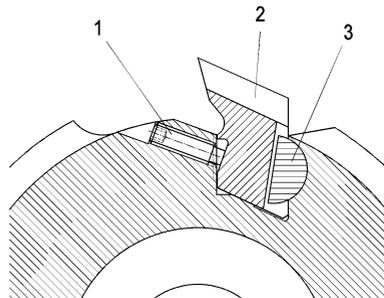

Fig. 2
2. Align the finger jointing cutters in such a way, that the screws (1) per insert (2) can be loosened. If available, use our tool holder (art. no. TA633005).
6. Place new or reground inserts into the corresponding knife seat. Consider the position of the spring disc (3). In order the insert can be mouted in a simple way, the spring disc must be aligned parallel to the inside surface of the positioning groove in the insert and not parallel to the knife seat (see Fig. 2).
9. Now tighten the set screws to the required tightening torque of 6 Nm with Allen key 3 mm, resp. 10 Nm with Allen key 4 mm.